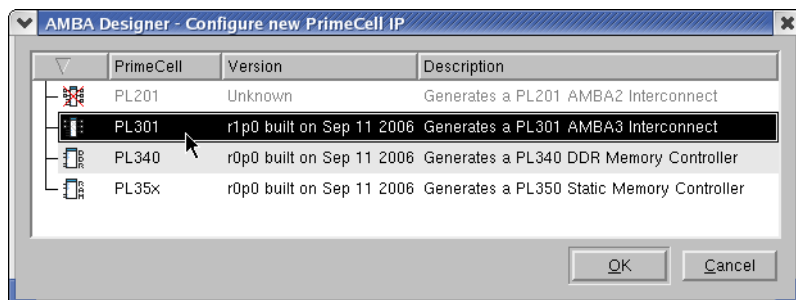

Figure 4-4 Configure new PrimeCell IP dialog
- a. Click on the row containing a PrimeCell name of PL301, as Figure 4-4 shows.